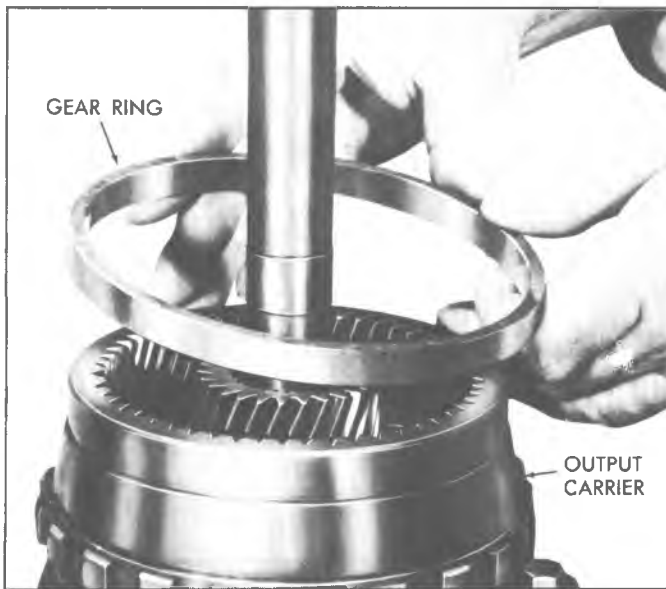

Fig. 7A-146C--Installing Front Internal Gear Ring to Output Carrier
13. Install front internal gear ring over output carrier (Fig. 7A-146C).